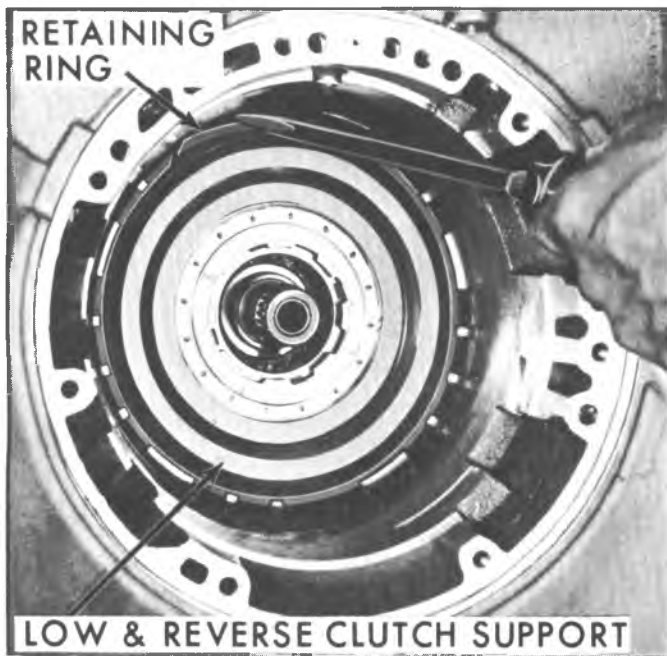

Fig. 38N--Removing Low and Reverse Clutch Support Retaining Ring
13. Remove low and reverse roller clutch support to case retaining ring (fig. 38N).